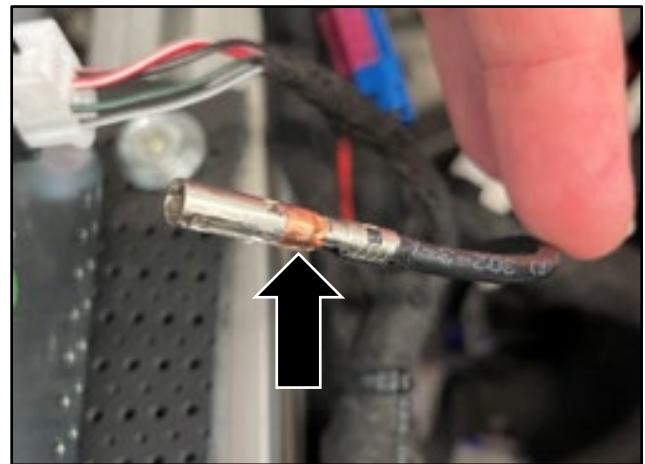

Figure 5
7. Remove the connector from the housing and check if the terminal has been reworked (refer to Figure 5).